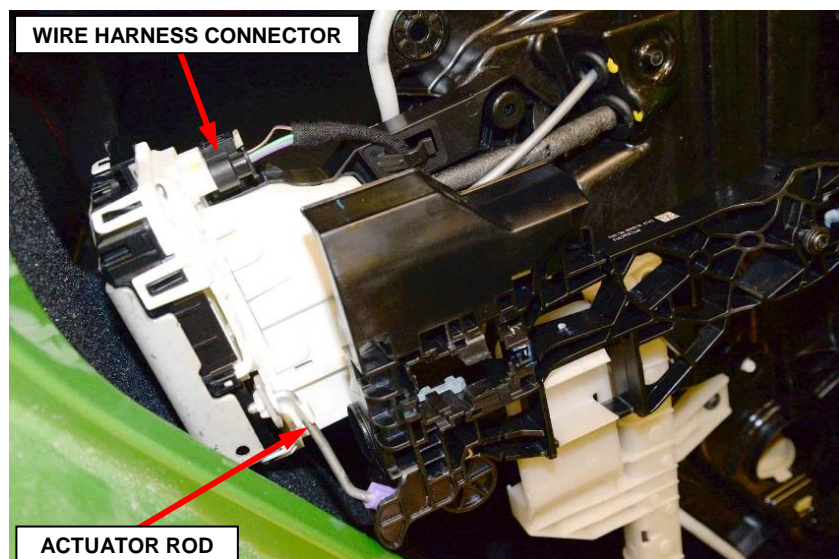

Figure 18 – Actuator Rod and Wire Harness
32. Disconnect the door latch actuator rod from the door latch (Figure 18).
33. Disconnect the wire harness connector from the door latch (Figure 18).
55. Connect the wire harness connector to the door latch (Figure 18).
56. Connect the latch actuator rod to the door latch (Figure 18).